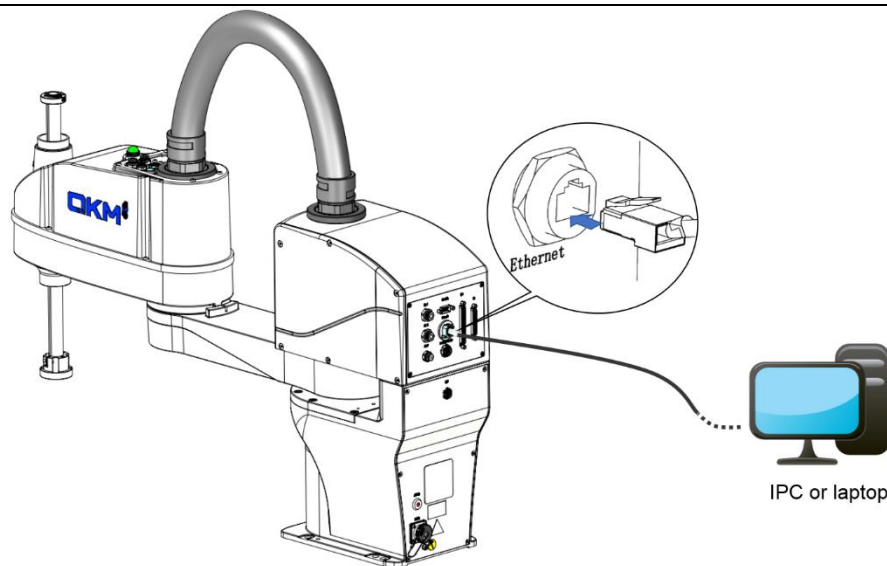

Figure 5-8 Schematic diagram of communication connection
**Step 2** Insert the other end of the network cable into the PC or IPC port as shown in Figure 5-8